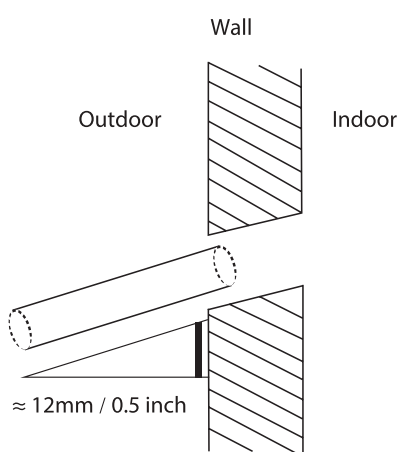

Fig. 6.4
- Using a 65-mm (2.5") core drill, drill a hole in the wall. Make sure that the hole is drilled at a slight downward angle, so that the outdoor end of the hole is lower than the indoor end by about 12mm (0.5"). This will ensure proper water drainage (See Fig. 6.4). Place the protective wall cuff in the hole. This protects the edges of the hole and will help seal it when you finish the installation process.